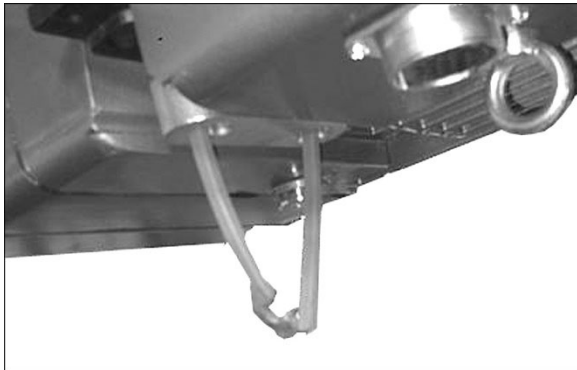

Figure 13-2
6. Insert chain puller through hoist as shown in Figure 13-2.